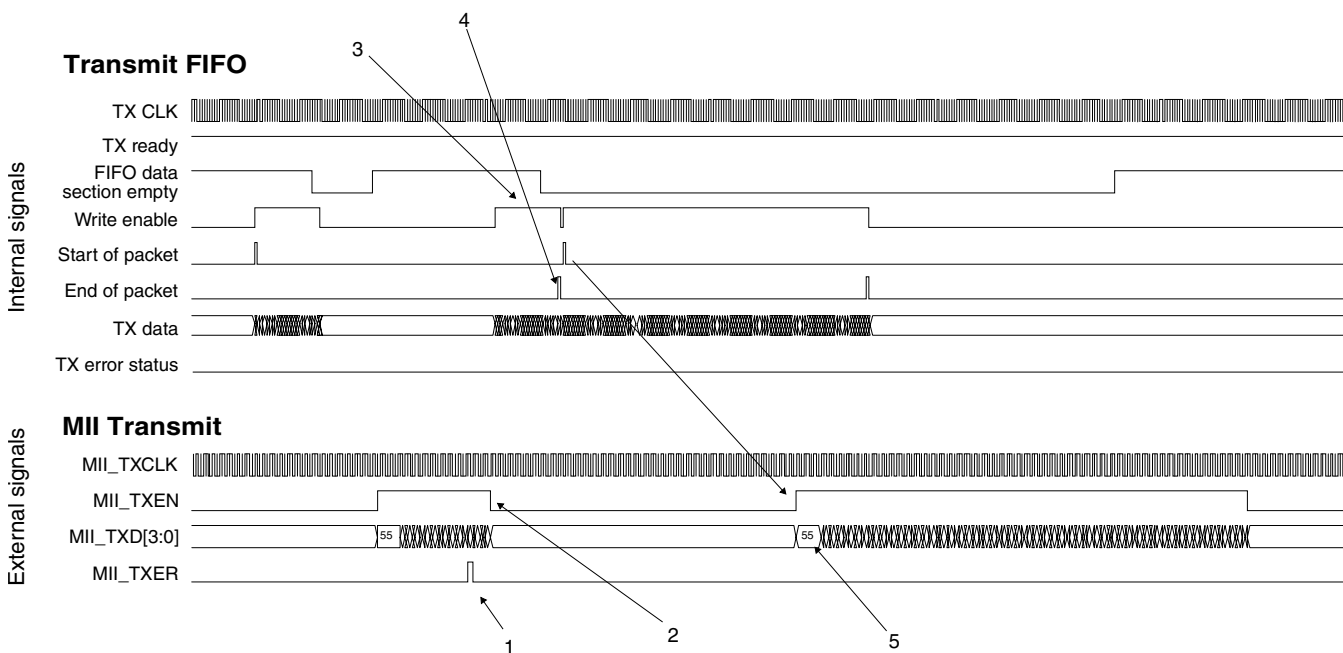

Figure 54-16. Transmit FIFO underflow protection
- Asserts the MII error signal (MII_TXER) (1 in Figure 54-16) to indicate that the fragment already transferred is not valid
- Deasserts the MII transmit enable signal (MII_TXEN) to terminate the frame transfer (2)